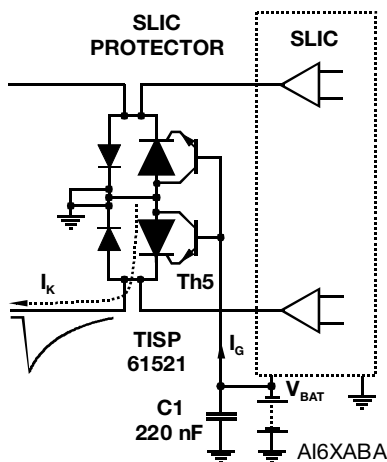
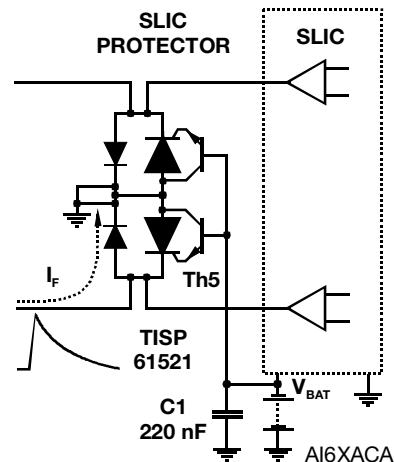
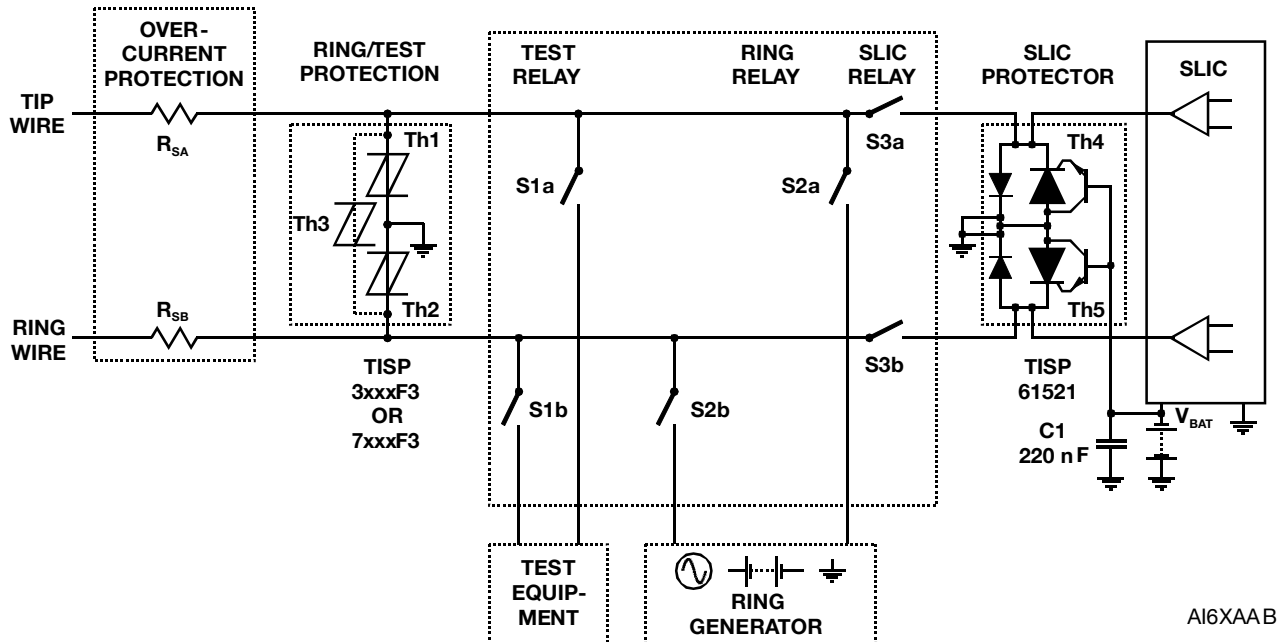

Figure 3. Negative Overvoltage Condition
Figure 4. Positive Overvoltage Condition
Figure 6. Typical Application Circuit
SLICs have become more sophisticated. To minimize power consumption, some designs automatically adjust the driver supply voltage to a value that is just sufficient to drive the required line current. For short lines, the supply voltage would be set low, but for long lines, a higher supply voltage would be generated to drive sufficient line current. The optimum protection for this type of SLIC would be given by a protection voltage which tracks the SLIC supply voltage. This can be achieved by connecting the protection thyristor gate to the SLIC  $V_{BAT}$  supply, Figure 3. This gated (programmable) protection arrangement minimizes the voltage stress on the SLIC, no matter what value of supply voltage.
Figure 3 and Figure 4 show how the TISP61521 limits negative and positive overvoltages. Positive overvoltages (Figure 4) are clipped by the antiparallel diode of Th5 and the resulting current is diverted to ground. Negative overvoltages (Figure 3) are initially clipped close to the SLIC negative supply rail value ( $V_{BAT}$ ). If sufficient current is available from the overvoltage, then Th5 will switch into a low voltage on-state condition. As the overvoltage subsides, the high holding current of Th5 prevents d.c. latchup. The protection voltage will be the sum of the gate supply ( $V_{BAT}$ ) and the peak gate-cathode voltage ( $V_{GK(BO)}$ ). The protection voltage will be increased if there is a long connection between the gate decoupling capacitor, C1, and the gate terminal. During the initial rise of a fast impulse, the gate current ( $I_G$ ) is the same as the cathode current ( $I_K$ ). Rates of 70 A/ $\mu$ s can cause inductive voltages of 0.7 V in 2.5 cm of printed wiring track. To minimize this inductive voltage increase of protection voltage, the length of the capacitor to gate terminal tracking should be minimized. Inductive voltages in the protector cathode wiring will also increase the protection voltage. These voltages can be minimized by routing the SLIC connection through the protector as shown in Figure 6.
Figure 6 shows a typical TISP61521 SLIC card protection circuit. The incoming line conductors, Ring (R) and Tip (T), connect to the relay matrix via the series overcurrent protection. Fusible resistors, fuses and positive temperature coefficient (PTC) resistors can be used for overcurrent protection. Resistors will reduce the prospective current from the surge generator for both the TISP61521 and the ring/test protector. The TISP7xxxF3 protector has the same protection voltage for any terminal pair. This protector is used when the ring generator configuration may be ground or battery-backed. For dedicated ground-backed ringing generators, the TISP3xxxF3 gives better protection as its inter-conductor protection voltage is twice the conductor to ground value.